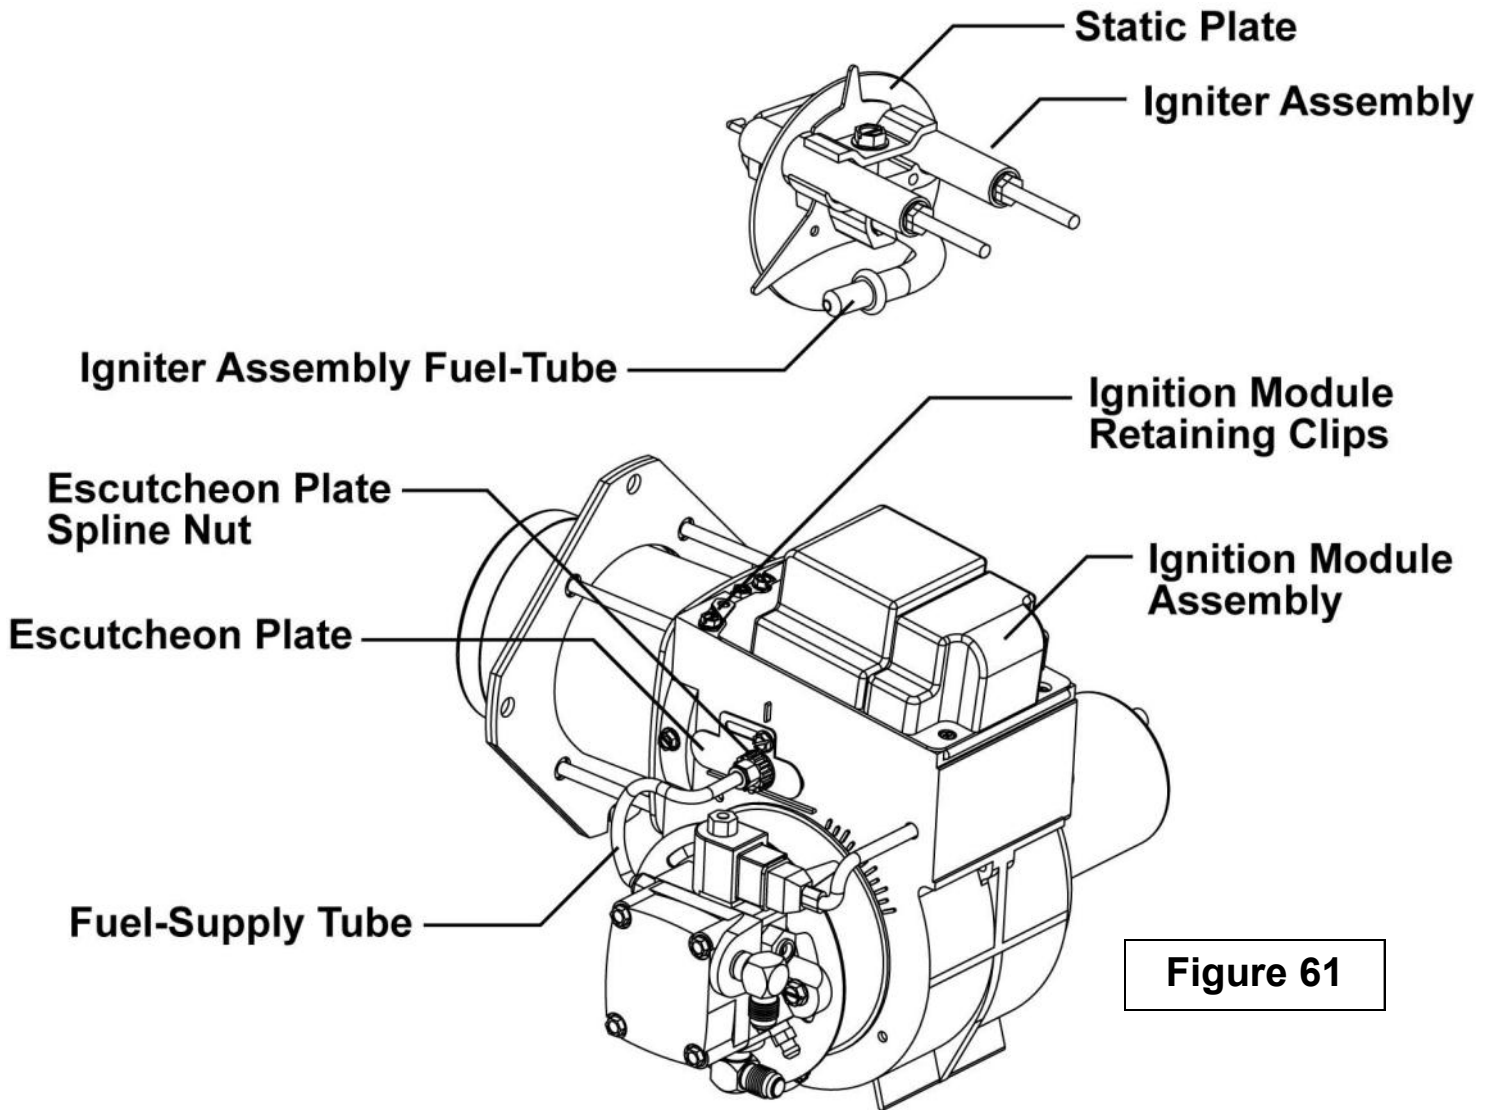

Figure 61
1. Loosen the hexagonal locknut securing the Fuel-Supply Tube to the Diesel-Burner. Reference Fig. 61.